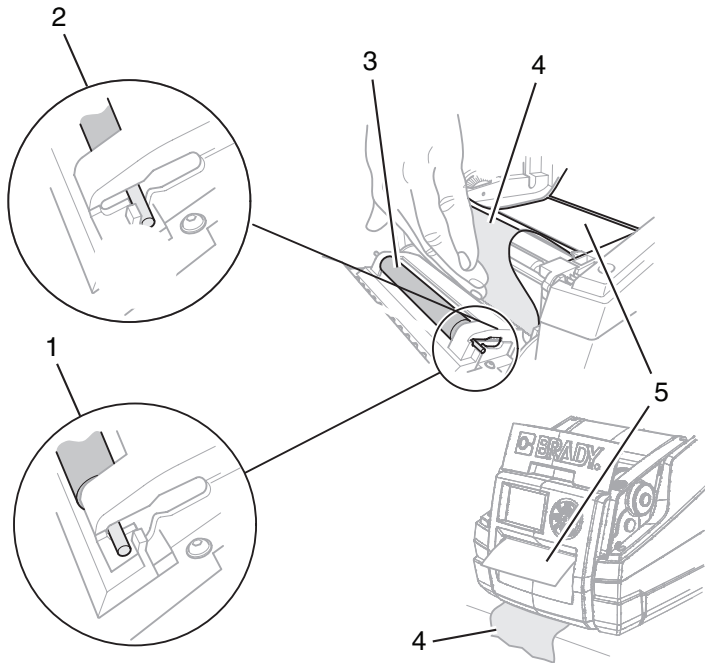

Figure 10, Peel-Off Mode
3. Press on the metal pins at each end of the pressure roller (**Figure 10, 3**) and slide the roller from the disengaged position (**Figure 10, 2**) into the engaged position (**Figure 10, 1**).
4. Remove the labels (**Figure 10, 5**) from about the first 6 inches (152.4 mm) of the label backing (**Figure 10, 4**).
5. Feed the label backing (**Figure 10, 4**) out between the control panel and the printer.